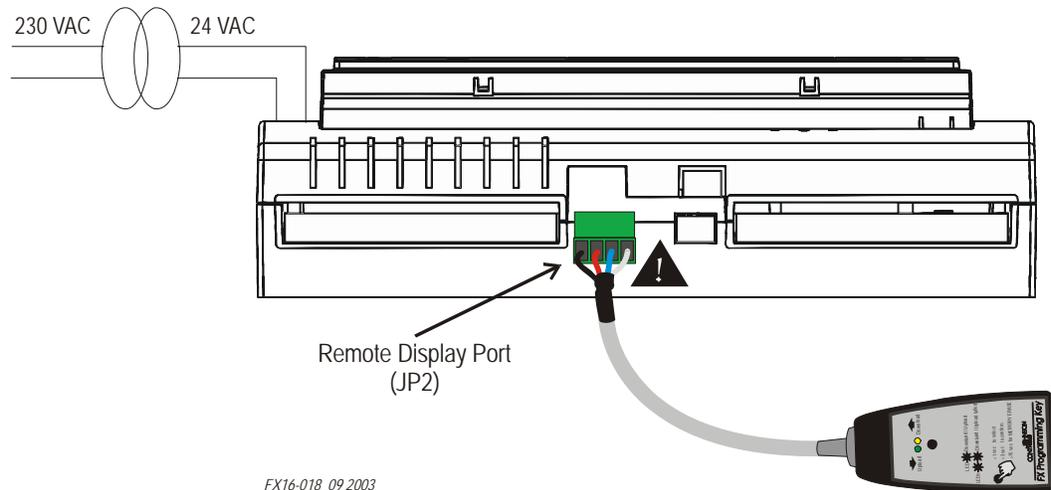

Figure 38: Programming Key Connection to FX16 Master Controller
3. Plug the Programming Key into the Remote Display Port (see Figure 38).